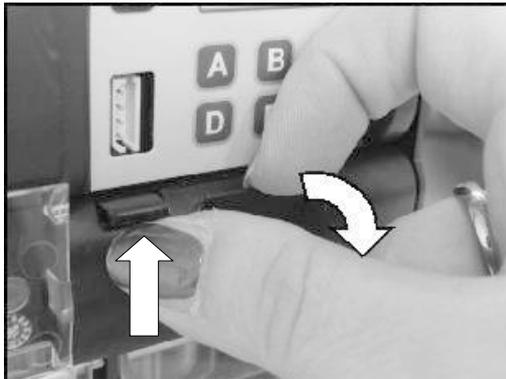

Fig. 1
See Fig.1 and 2 (p.5)
2. Press the latch and remove the front cover (*Fig. 1*).